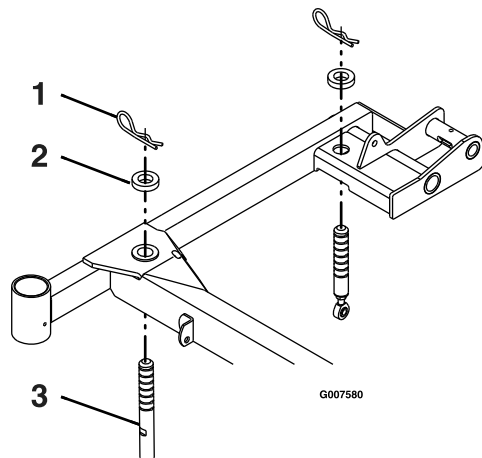

Figure 69
4. Verify that all hairpin cotters are in the 7.62 cm (3 inch) mower-deck-height holes with the spacers under the hairpin cotters (Figure 69).
5. Shorten or lengthen each mower deck support pin to obtain blade tip height of 7.62 cm (3 inches) at the front of the deck and 8.26 cm (3 1/4 inches) at the rear of the deck (Figure 69).